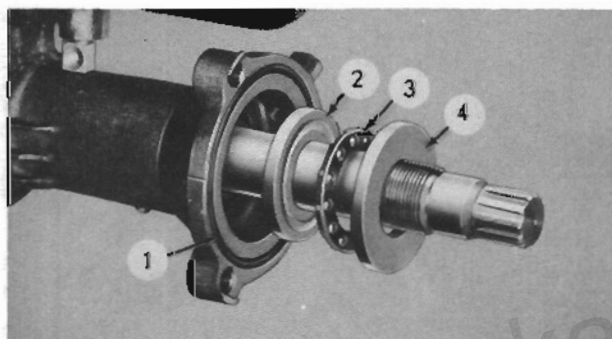
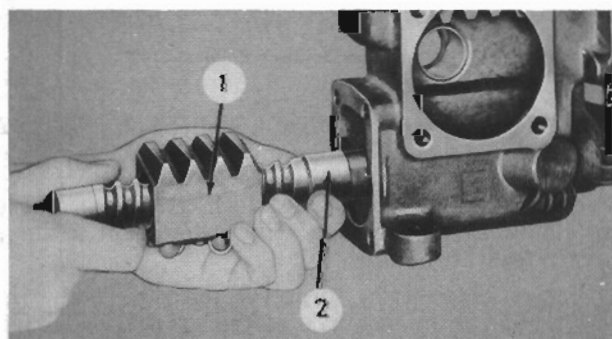

FIG. 66
FIG. 67
Remove the lower thrust bearing assembly. The assembly consists of three parts: the inner race (4, Fig. 66), bearing (3), and outer race (2). The outer race is of smaller diameter than the inner race. Remove the worm shaft lower end cover screws (2, Fig. 51). Then remove the cover and gasket from the housing. Carefully slide the worm shaft and ball nut assembly out of the housing (see Fig. 67).